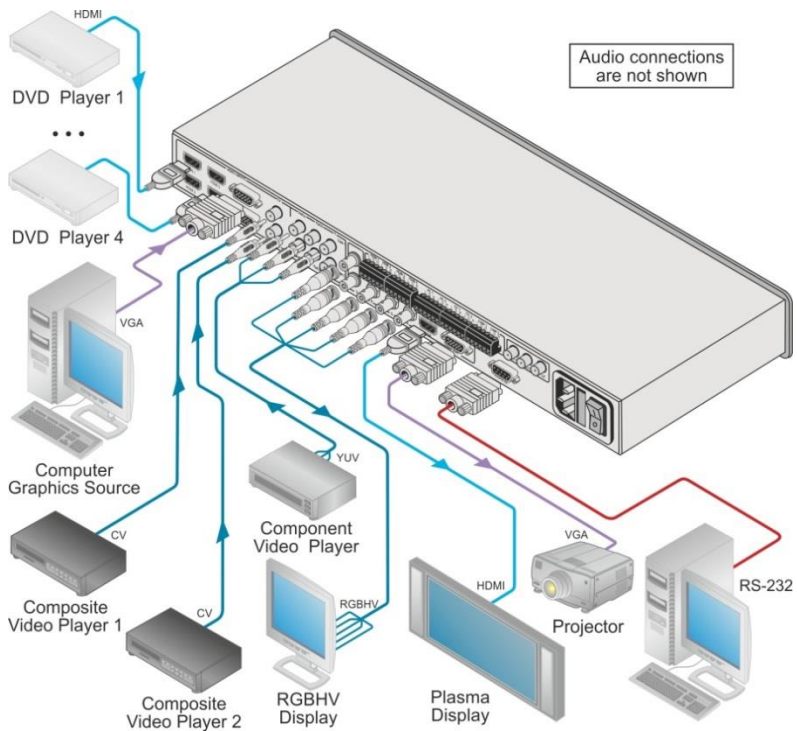

Figure 3: Connecting the VP-438 Presentation Switcher/Scaler
To connect your **VP-438**, as illustrated in the example in Figure 3, do the following:
5. Connect the audio input signals to the AUDIO INPUT terminal block connectors, as required (not shown in Figure 3).
9. Connect the audio output signals to the AUDIO OUTPUTS stereo analog audio acceptor and/or the digital audio acceptor, as required (not shown in Figure 3).
10. Connect the power cord (not shown in Figure 3).